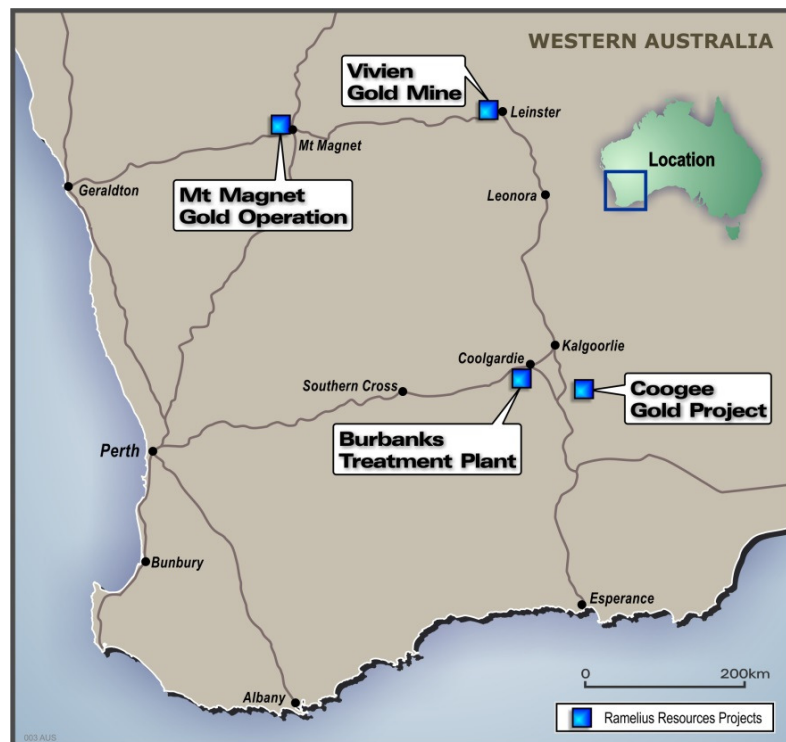

Figure 1: Ramelius' Western Australian project locations
The Directors of gold producer Ramelius Resources Limited, (ASX:RMS) are pleased to announce that new high grade gold assay results are now available from Reverse Circulation (RC) exploration drilling recently completed at the Company's Vivien gold project near Leinster (acquiring from Gold Fields Limited) and Ramelius' 100% owned Coogee gold project south of Kalgoorlie – both in Western Australia (Figure 1).